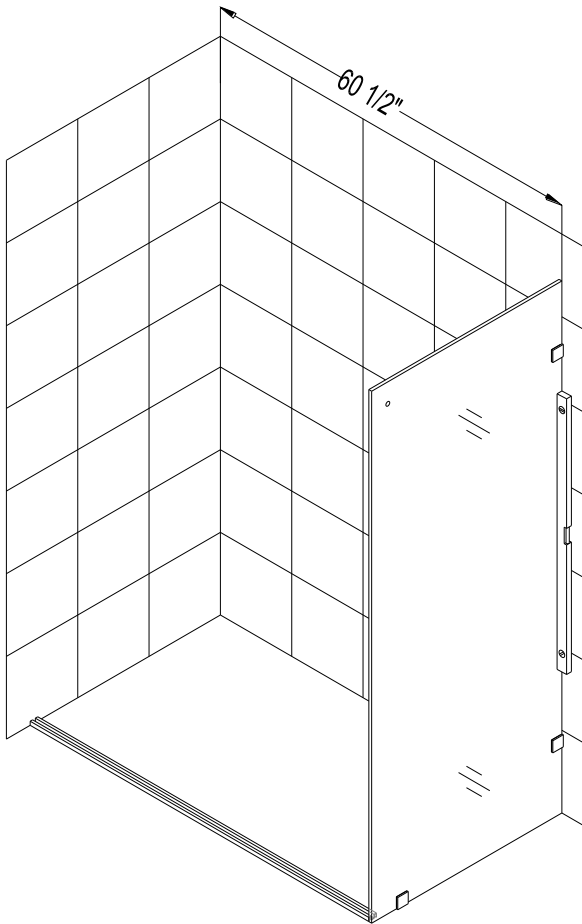

Fig. 5
b) Refer to the shower enclosure plan for dimensions and mark them out on the wall. Position the glass according to the dimensions provided in the diagram against the end of the **Threshold**. Level the return glass performing necessary adjustments to ensure that the return glass is parallel to its opposite wall and square against the back wall. See fig. 5 for details.